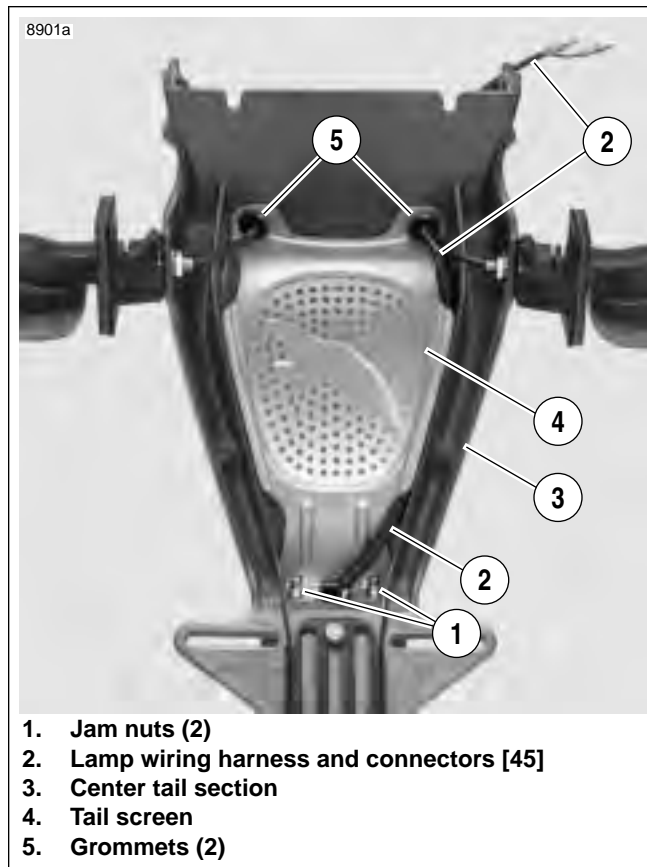

Figure 7-55. License Plate Lamp Mounting
2. See Figure 7-55. Disconnect the two connectors [45] from license plate lamp harness (2).
3. Remove two jam nuts and washers (1) to detach license plate lamp from center tail section (3).
1. See Figure 7-55. Install license plate lamp assembly.
- a. Insert license plate lamp wiring harness (2) through hole at rear of center tail section (3) and route between the tail section and the tail screen (4).
- b. Attach lamp assembly to tail section using washers and jam nuts (1) and tighten to 12-36 in-lbs (1.4-4.1 Nm).
- c. Attach the two connectors [45] from license plate lamp harness (2) to main harness.